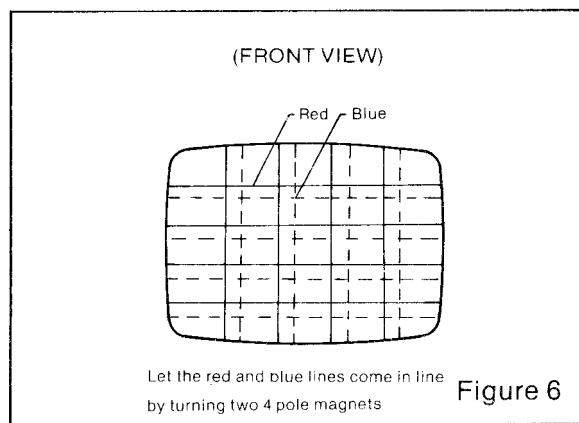

Figure 6
- 2.5 Rotate the 4-pole (front) pair of magnets as a unit to minimize separation of the red and blue crosshatch lines around the center of the screen (Fig. 6) Variation of the angle between the tabs adjusts convergence of red and blue.